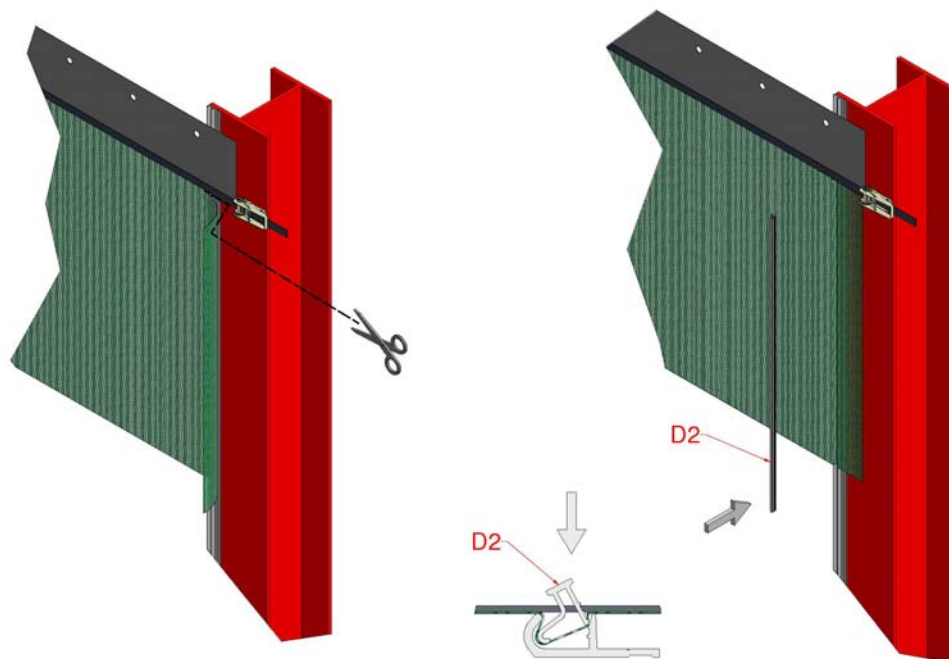

Figure 10, Fitting the Windseal
14. Cut the male windseal profile (D2) to length to fit between the webbing straps. Fasten the screen into the female windseal profile on both ends of the screen by inserting the male piece. Fixing the male windseal part is easier if hammered in with a rubber or wooden mallet. It may be necessary to trim the screen either side of the webbing strap to allow the male piece to be inserted, Figure 10.